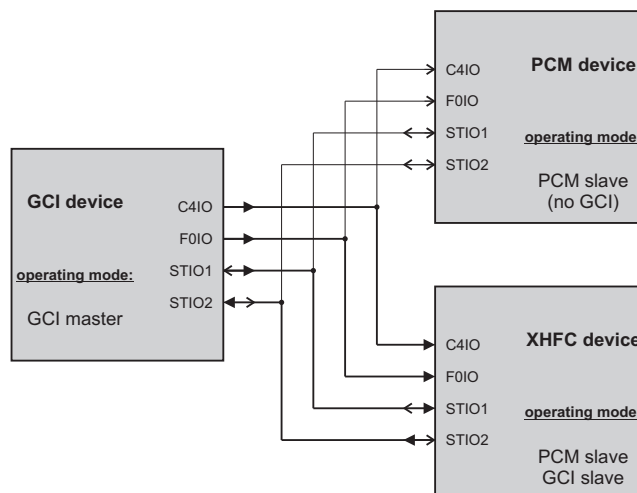

Figure 6.17: GCI application example 3 (XHFC-1SU is PCM slave and GCI slave)
The programming procedure is shown in Figure 6.17. GCI slave mode is configured with the shown settings for V\_GCI\_SWAP\_TXHS, V\_GCI\_SWAP\_RXHS and V\_GCI\_SWAP\_STIO in register R\_GCI\_CFG0. Again, not mentioned bitmap values of the GCI relevant registers remain in their reset state.
**Table 6.10:** Programming procedure for application example 3 according to Figure 6.17 (XHFC-1SU is PCM slave and GCI slave)